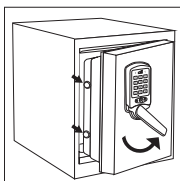

Figure 2
1. Close the safe door and turn handle downward to the left placing the door bolts into the locked position (Figure 1 and Figure 2).